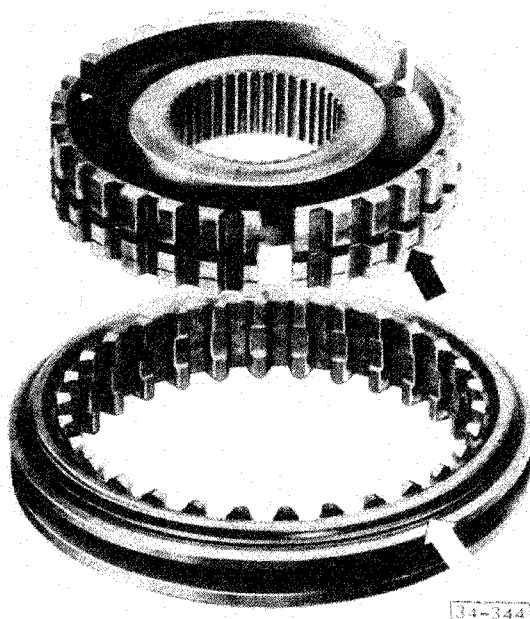

Fig. 6 Synchronizer 3rd/4th gear, assembling
- identification groove on sleeve (Fig. 6, white arrow) faces 4th gear